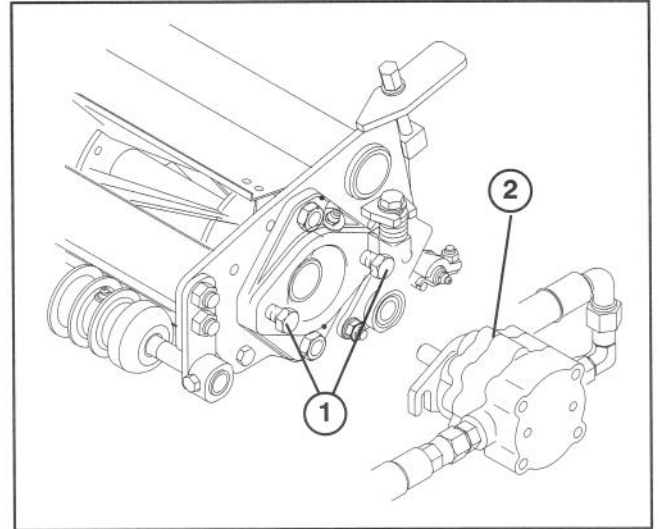

Figure 7
4. Assemble the mounting capscrews for the reel drive motor to each cutting unit. Leave approximately 1/2 in. of threads exposed on each mounting capscrew (Fig. 7).
5. Remove the protective covers from the cutting units and the reel drive motor shafts. Coat the spline shaft of the motor with clean grease and install the motor by rotating the motor clockwise so the motor flanges clear the studs. Rotate the motor counter-clockwise until the flanges are encircling the studs and tighten the mounting capscrews (Fig. 7).